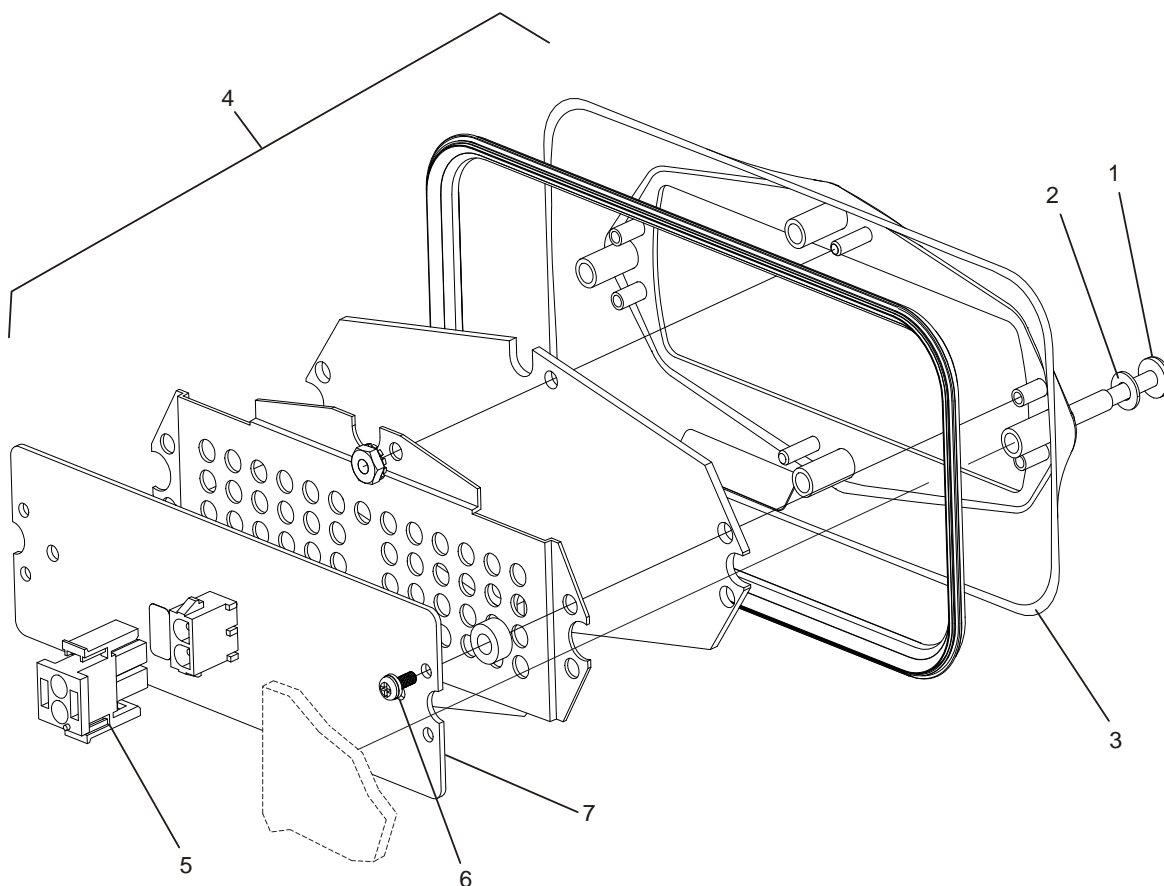

Figure 7-13: Replace Turn Signal Indicator Lamp
2. Remove two metric catch screws (1, Figure 7-13) and two nylon washers (2) from the bezel (3).
3. Partially remove the complete turn signal assembly (4) from its mounting surface.
4. Disconnect the 2-conductor nylon connector (5).
5. Remove four 4-40 x 5/16 sems screws (6) from the back of the PC board assembly (7).
6. Install the replacement PC board assembly (7) using four 4-40 x 5/16 sems screws (6).
7. Connect the 2-conductor nylon connector (5).
8. Install the complete turn signal assembly (4) with bezel (3) to its mounting surface using two metric catch screws (1) and two nylon washers (2).